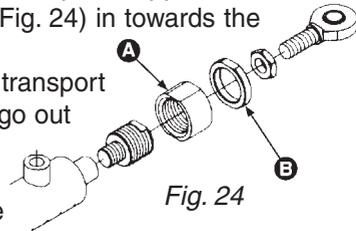

Fig. 24
4. If the boom rests too far in on the transport support, loosen the nut (**B**)(Fig. 24) and adjust collar (**A**)(Fig. 24) in towards the cylinder housing.
5. If the boom rests too far out on the transport support, the collar (**A**)(Fig. 24) has to go out from the cylinder housing.
6. Secure jam nut (**B**)(Fig. 24).